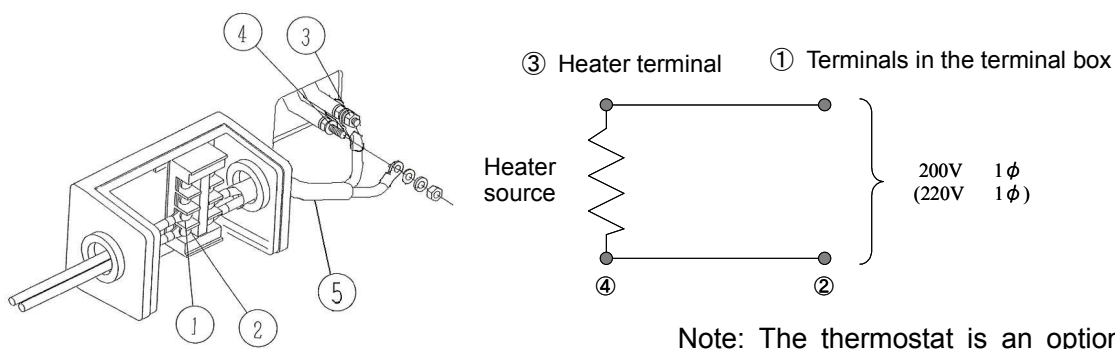

Figure 16: Wiring work instructions in terminal box for ULK-04A, ULK-06A
(1) Figure 16
Also for the removal process of the heater, see the nut numbers shown in Figure 16.
(2) Figure 16
(3) Figure 16